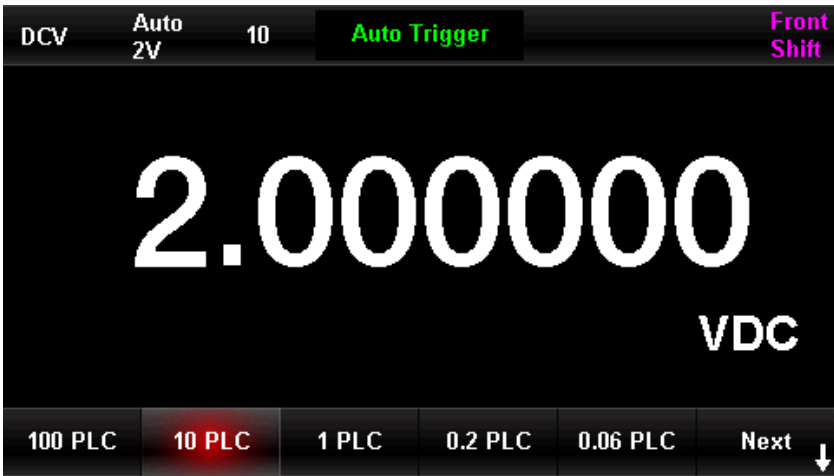

Figure 2-2 Integral time Menu
- For DCV, DCI and OHM measurement, select [Integral time] in the menu to see the setting options as shown in Figure 2-2(taking DCV measurement as an example). Press the corresponding menu key to realize the configuration. Setting the integral time will affect the resolution.